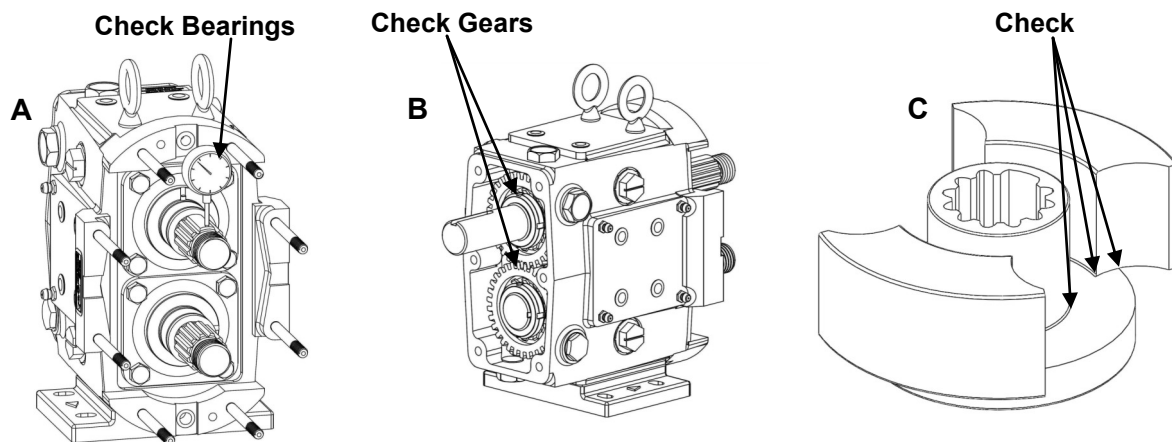

Figure 22: Annual Maintenance Checks
- Check the gear case bearings by measuring the shafts radial movement with a dial indicator (Figure 22, A). If the movement is greater than or equal to the rotor to body clearance found on page 29 (Table 8) the bearings should be replaced.
- Remove the gear casing cover (See page 21 for disassembly information) and inspect the gears for wear and damage (Figure 22, B). Also check for backlash and looseness.
- Inspect the rotors for signs of wear and stress cracks around the areas defined in Figure 22, C. Replace, if necessary.